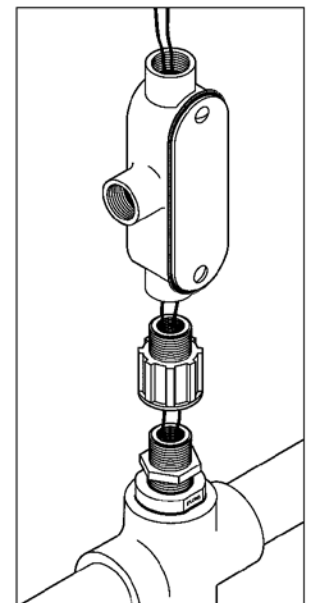

FIGURE 4
6. Pass wires to the controller through threaded nipples, union and access tee. Leave vent open on access tee. Refer to Section 6, Diagram 2, pg. 22. (Figure 4)